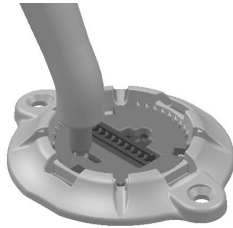

Figure 51. Inserting the Placement/Removal Tool
5. Insert the tip end of the Placement/Removal Tool into the Clip Release Hole on the Retaining Clip (Figure 51). The tip of the Placement/Removal Tool should snap into place.